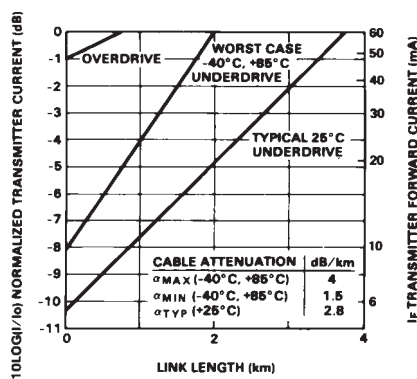

Figure 3. HFBR-1414/HFBR-2412 Link Design Limits with 62.5/125 μ m Cable.
Maximum distance required = 400 meters. From Figure 3 the drive current should be 15 mA. From the transmitter data $V_F = 1.5\text{ V (max.)}$ at $I_F = 15\text{ mA}$ as shown in Figure 9.
The curves in Figures 3, 4, and 5 are constructed assuming no in-line splice or any additional system loss. Should the link consists of any in-line splices, these curves can still be used to calculate link limits provided they are shifted by the additional system loss expressed in dB. For example, Figure 3 indicates that with 48 mA of transmitter drive current, a 1.75 km link distance is achievable with $62.5/125\ \mu\text{m}$ fiber which has a maximum attenuation of 4 dB/km. With 2 dB of additional system loss, a 1.25 km link distance is still achievable.
2. Typical performance of circuits shown in Figure 1 and Figure 3 of AN-1038 (see applications support section).
2. Typical performance of circuits shown in Figure 1 and Figure 3 of AN-1065 (see applications support section)